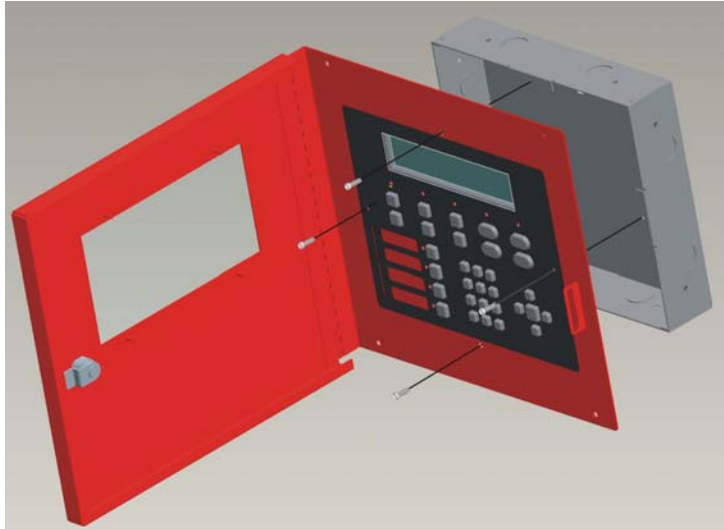

Figure 4-12 Attaching Annunciator / Door Assembly to Backbox
4. Attach the annunciator and door assembly to back box as shown in Figure 4-12 using the supplied screws.